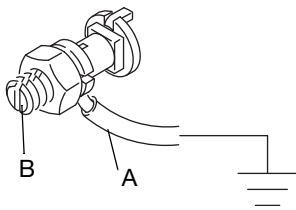

FIG. 2: Grounding
To ground the agitator, connect one end of the ground wire (A) to the ground connector (B) on agitator mounting bracket (see FIG. 2). Connect the other end of the ground wire to a true earth ground.